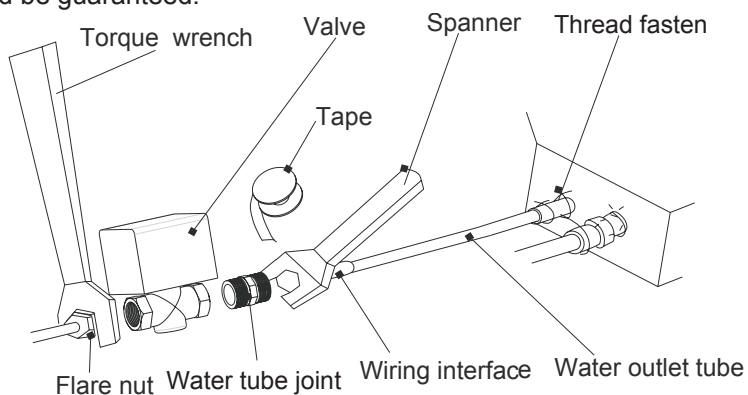

Fig.17
- (1) The installation of the motorized valve should be done according as Fig.17. Firstly connect one end of the tube joint with the water inlet tube of the unit, then connect the other end with the motorized valve, and lastly connect the motorized valve with the flare nut. During the installation, both the torque wrench and the spanner should be used and the moment of torque should be within 90N.m. Besides, a secure connection should be guaranteed.